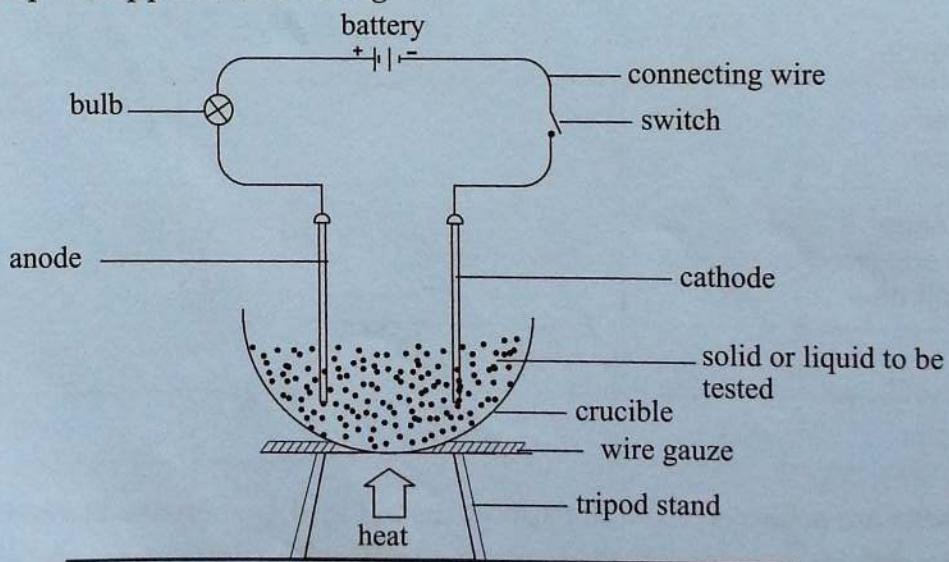

Fig 4.5: Testing conductivity of molten substances
1. Set up the apparatus as in Fig 4.5.